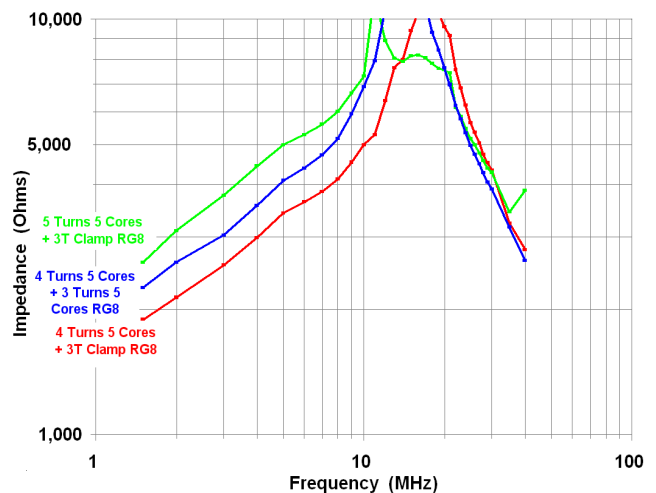

Fig 46 – Impedance of Chokes in Series
**Chokes in Series** As we learned earlier, the impedances of multiple chokes in series will add, taking the reactances of each choke into account. That is, if one choke looks inductive and resistive at a given frequency and the other choke looks resistive and capacitive, the resistances will add, but the capacitance and inductance will cancel each other (at least partially). Fig 46 is measured data for